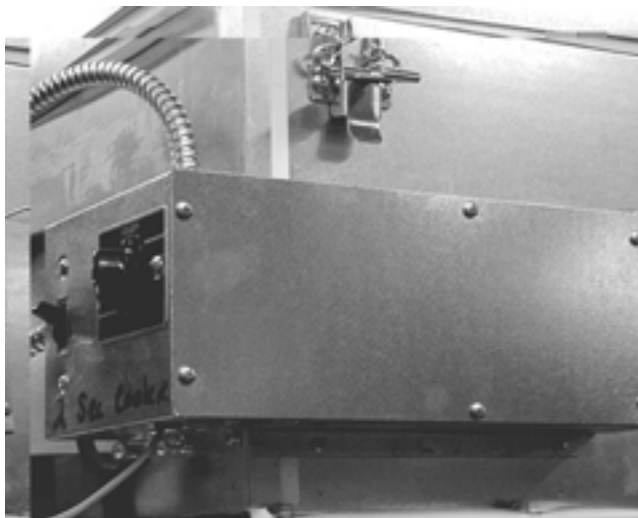

Figure 4-38
2. Remove the (6) screws from the wiring box front (Figure 4-38).